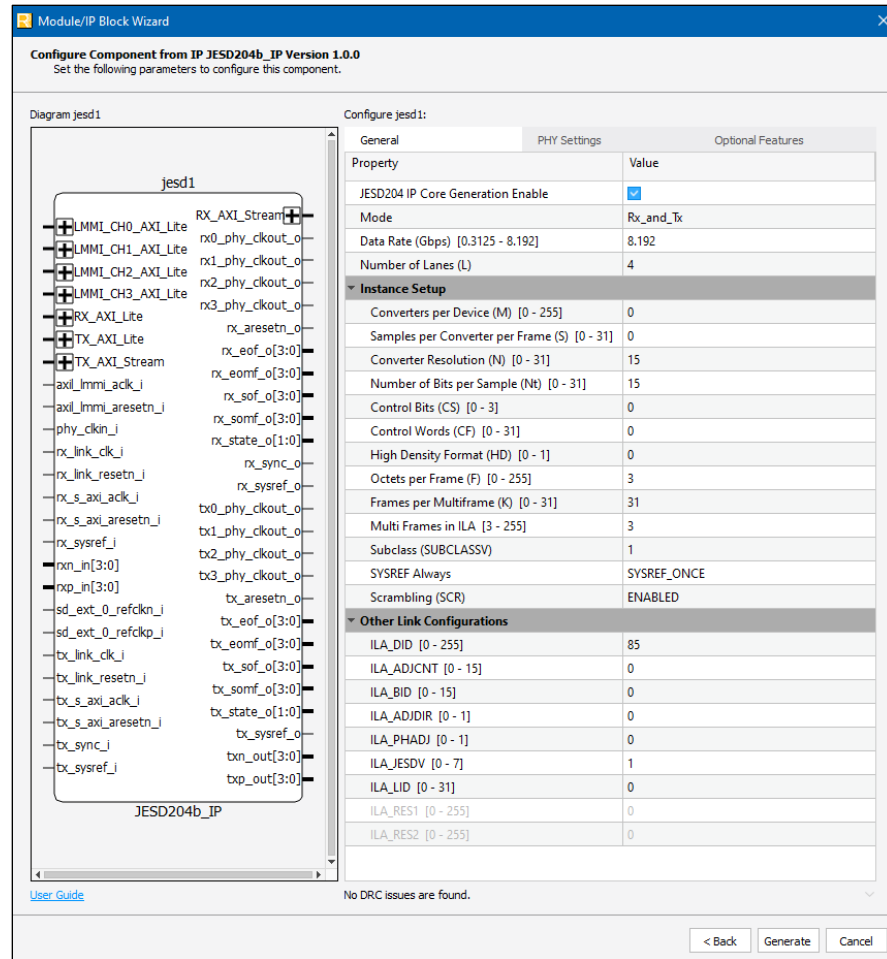

Figure 7.2. IP Configuration
3. In the next **Module/IP Block Wizard** window, customize the selected JESD204B IP using drop-down lists and check boxes. Figure 7.2 shows an example configuration of the JESD204B IP. For details on the configuration options, refer to the IP Parameter Description section.